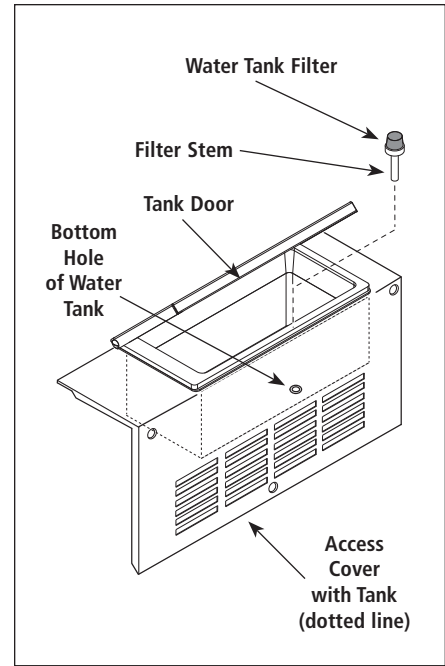

**Figure 9. Monthly Cleaning**
3. Remove the Wing Nut, Generator Cover, and Diffuser (Figure 9). Wash these items in hot, soapy water, rinse and wipe dry.
5. Take a wire brush and clean out any buildup from the 28 Steam Ports (26 vertical and 2 horizontal) of the Generator (Figure 9). Remove the loose buildup, wipe the Generator with a clean, damp cloth, and reassemble the unit.